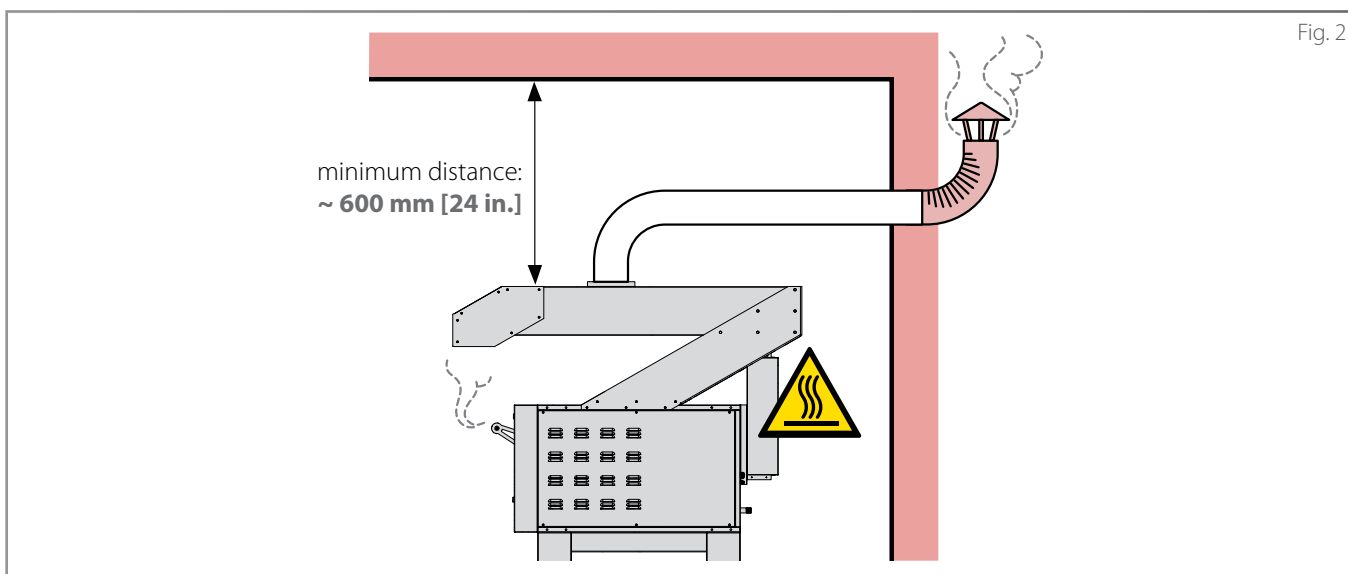

Fig. 2
- **Fig. 2** there is a distance of about **600 mm [24"]** from the ceiling (shorter distances could damage ceilings made of particularly delicate and heat sensitive materials - e.g. wood);